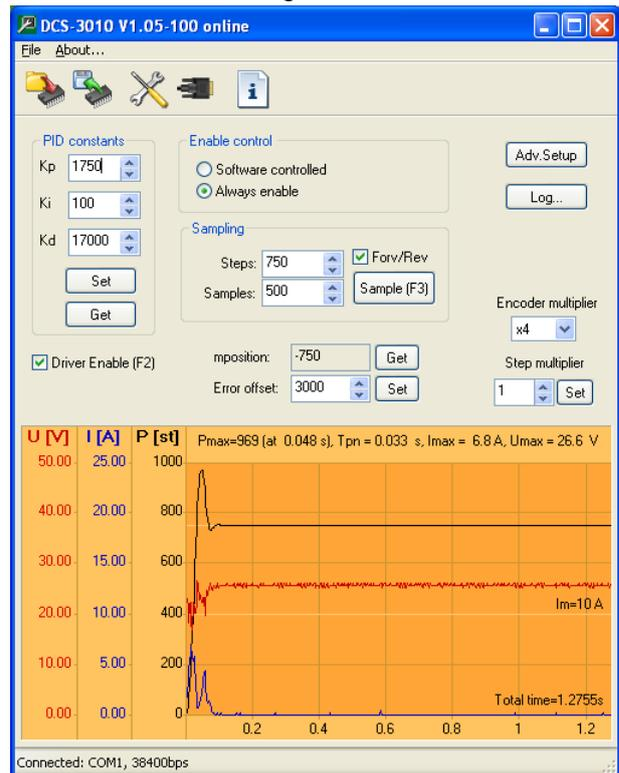

Figure 22
**STEP 4:** Final values of the PID constants and the response of the motor are shown in Figure 22.